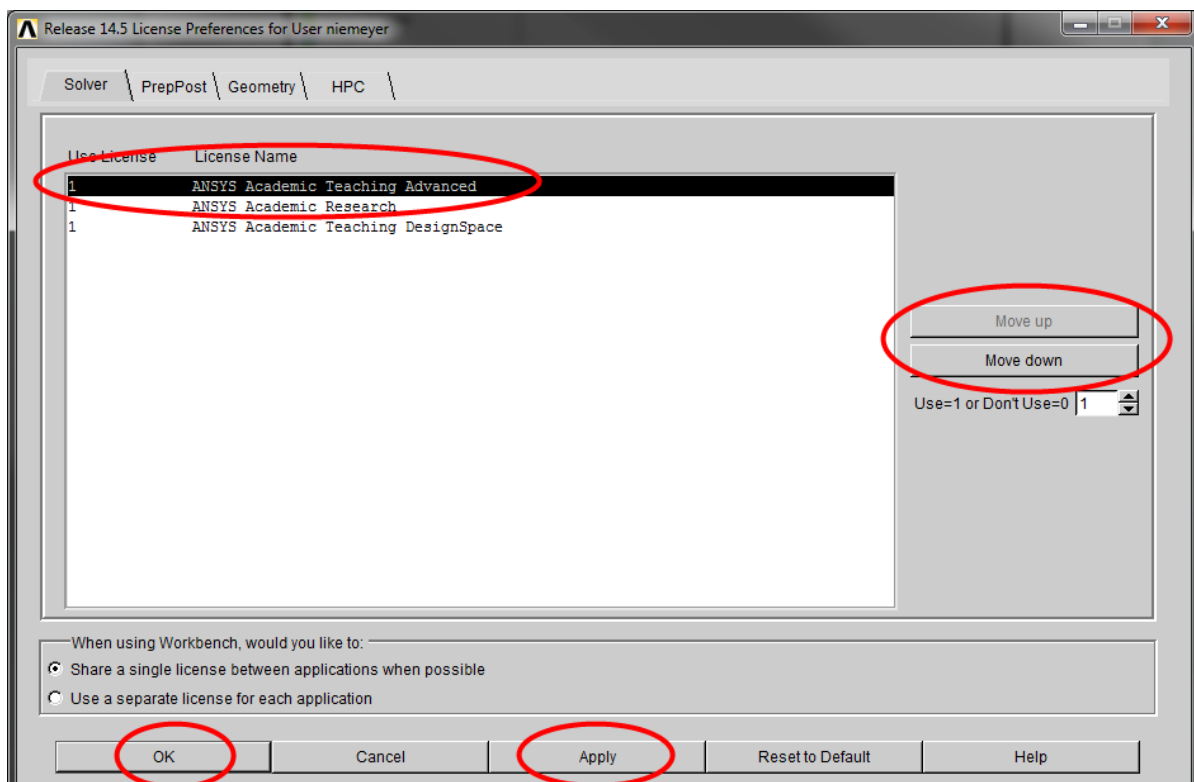

Figure 5: Configuring the license settings
**Important:** Please make sure to choose the right license type. After you have launched Workbench go to **Tools** → **License Preferences** and make sure that **ANSYS Academic Teach Advanced** is the default (i.e.: top-most) license option (Figure 5). Otherwise, use the **Move up** and **Move down** buttons to correct and finally **Apply** the settings.